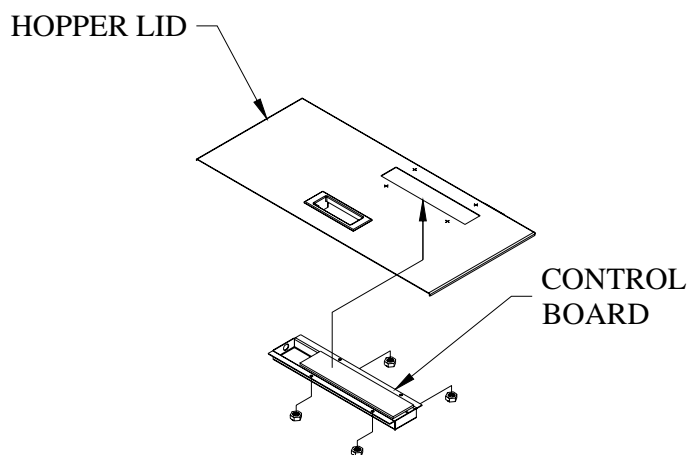

Figure 10
- 4- Attach the control board to the hopper lid with the 4 nuts.(Figure 10)